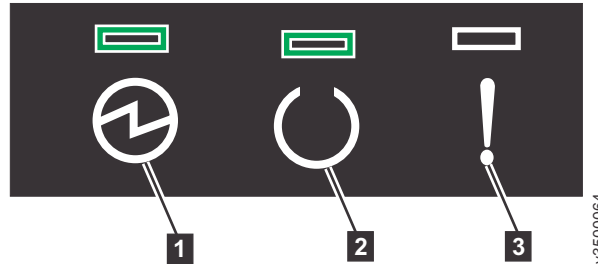

Figure 37. Node canister LEDs
5. Check the LEDs on each node canister in the control enclosure (see Figure 37).